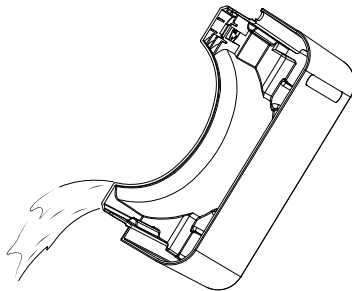

Fig. 3
- ◆ Empty the water tank ④ into a sink (see figure 3) and replace the water tank ④ in the appliance. The appliance resumes operation with the previously selected programme.